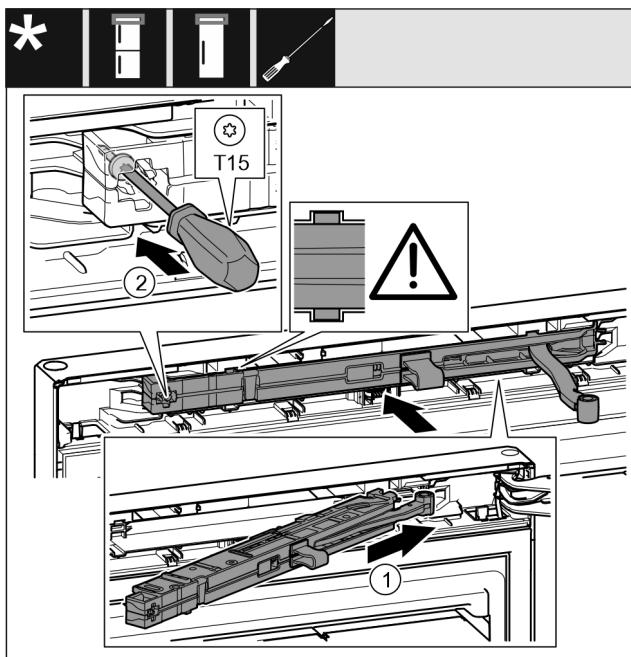

Fig. 47
- Slide the soft stop mechanism on the bearing bracket side at an angle into the recess as far as it will go. *Fig. 47 (1)*
- Tighten the screw using a T15 screwdriver. *Fig. 47 (2)*